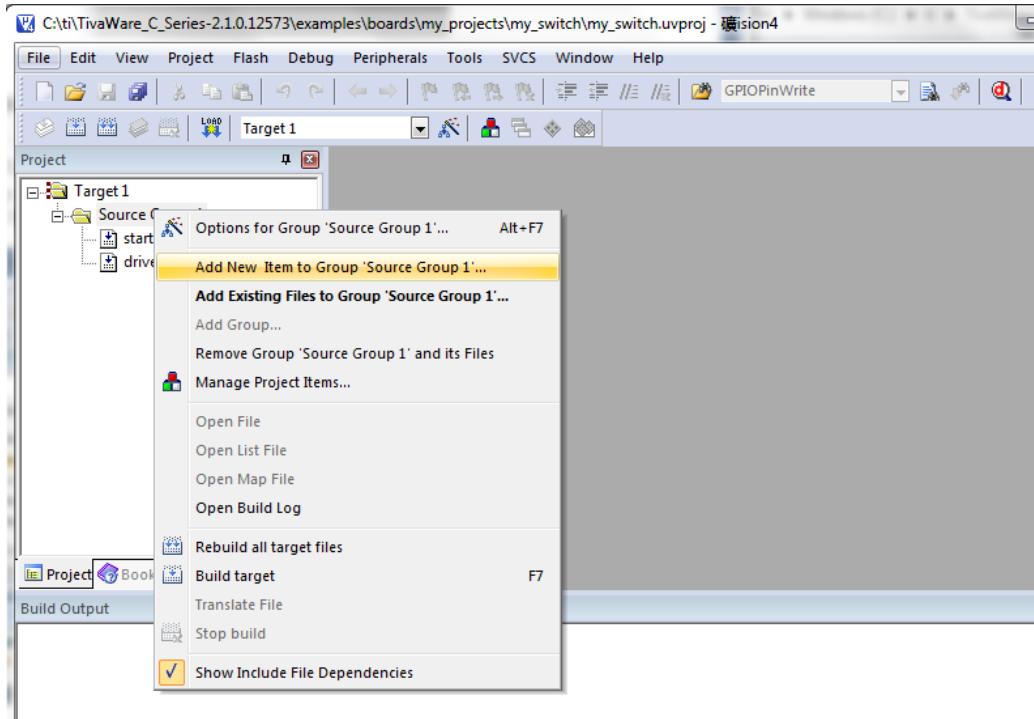
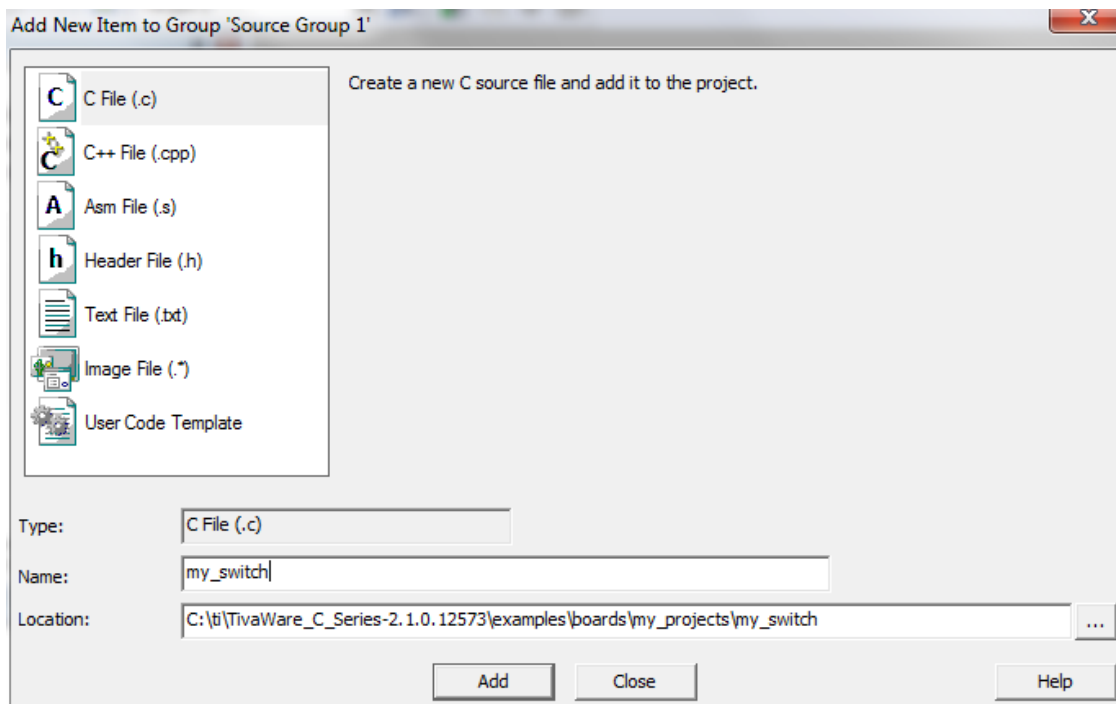

Figure 22
Figure 23
8. Create our main C program file by right-clicking the *Source Group 1* folder in the μ Vision IDE and select *Add New Item to Group 'Source Group 1'...* (see Figure 22). When the dialog box pops up to add a new item, choose the file type as C File (.c), and name the new file as *my_switch* and click Add (see Figure 23).